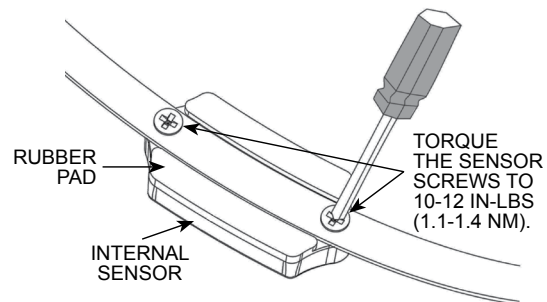

Figure 11: Internal Sensor Rubber Pad
3. Make sure the rubber pad has been installed on the sensor. See Figure 11.
4. Attach the sensor to the band clamp assembly with the accompanying hardware. Torque the screws to 10-12 in-lbs (1.1-1.4 Nm). See Figure 11.